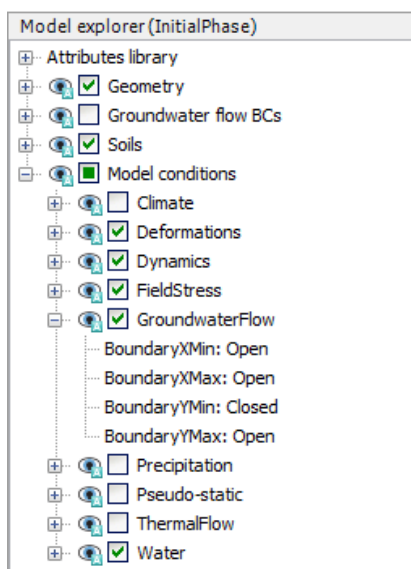

Figure 155: The groundwater flow boundary conditions for the initial phase
5. In the **Model conditions** expand the **GroundwaterFlow** subtree. The default boundary conditions are relevant for the initial phase. Confirm that only the bottom boundary is closed. The expanded groundwater flow boundary conditions is shown in Figure 155 (on page 180).